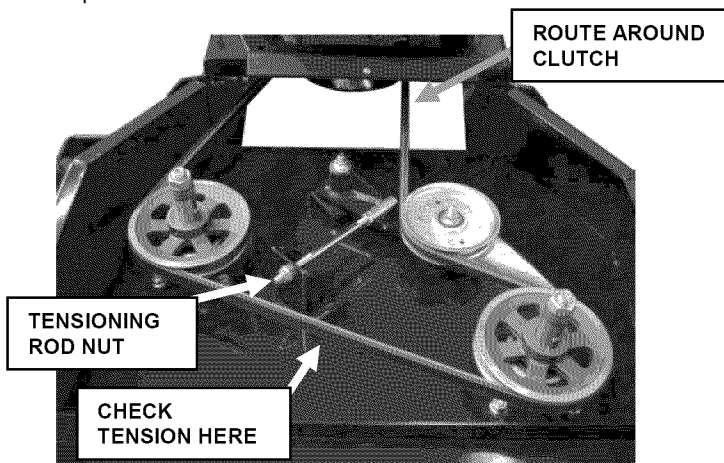

FIGURE 6.10
1. Remove nut securing deck idler tensioning rod to rod bracket, and slide rod out from bracket. See Figure 6.10.
3. Install new belt, using same pulley routing. See Figure 6.10.